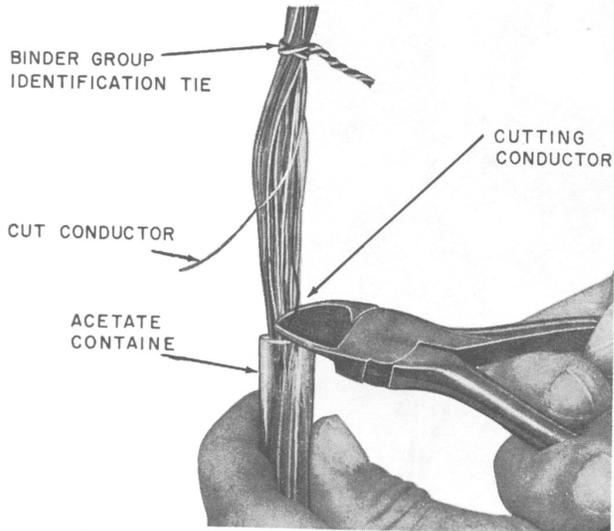

Fig. 9—Cutting Assigned Pair from Capped Binder Group
5.03 Cut the assigned **IN** pair as close to the acetate container as possible as shown in Fig. 9.